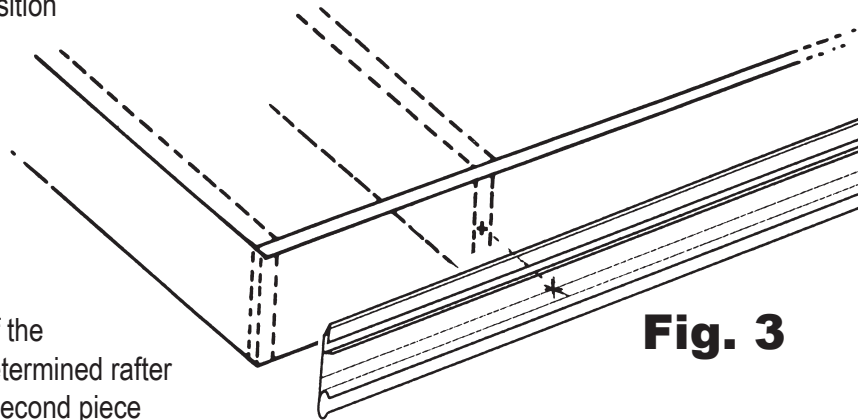

Fig. 3
B. Place hanging rail (s) (**Part 1-A**) in desired position on wall or fascia board and mark first hole to be drilled in hanging rail (s) (**Part 1-A**) relative to rafters or wall studs. (**Fig. 3**).